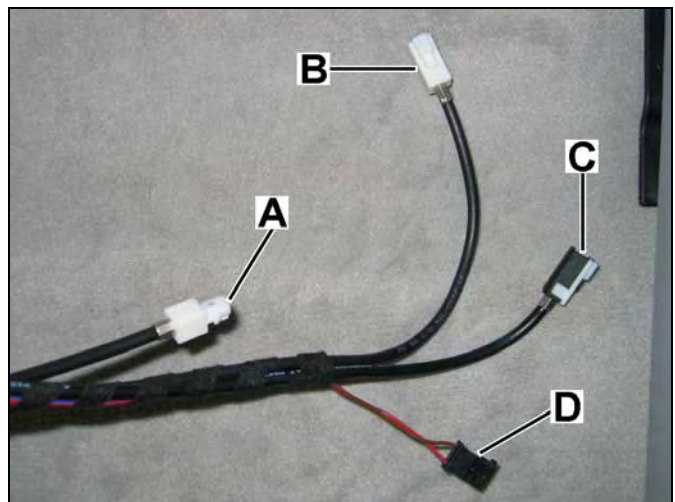

Figure 5
- **NOT USED** Male, white FAKRA main antenna lead (disconnected in step 4) (A, Figure 5)
- Female, white FAKRA **ANTENNA** Tele Aid lead (disconnected in step 4) (B, Figure 5)
- **NOT USED** Female, black FAKRA telephone lead (C, Figure 5)
- **NOT USED** Antenna switch 2-pin power supply connector (D, Figure 5)